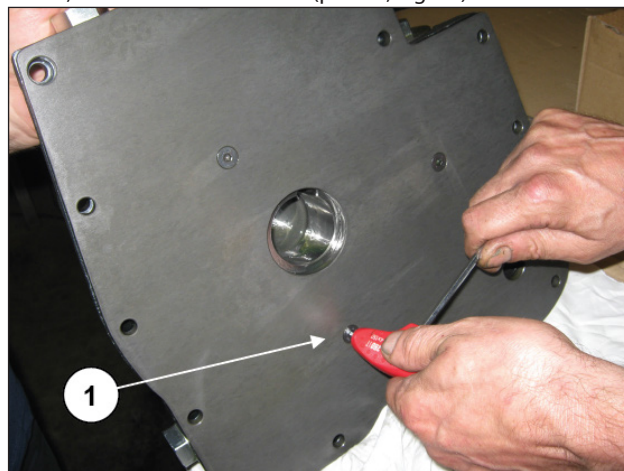
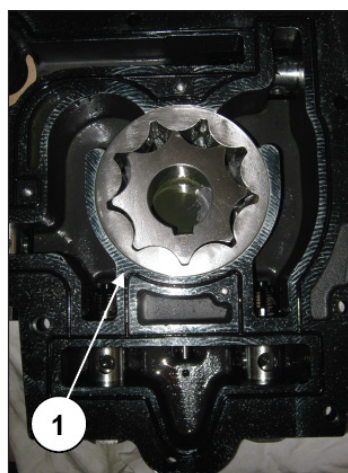

Fig. 51
Fig. 52
The correct removal procedure for the lube pump is described below. Remove the lube pump rear plate by undoing the three M6 screws (pos. ①, Fig. 51) to gain access to the lube pump rotors, then remove the rotors (pos. ①, Fig. 52).